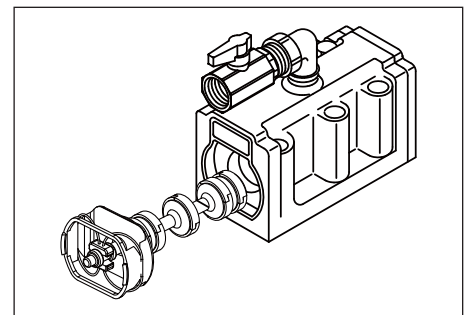

Figure 29
- Remove the spring stopper (See Figure 29).